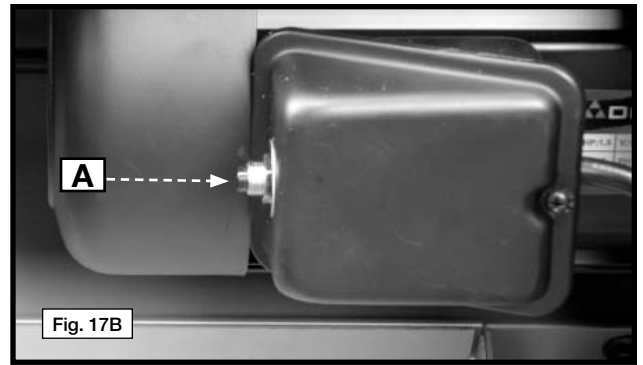

Fig. 17B
The drum motor is equipped with a reset overload relay. If the motor fails to start because of overloading or because of low voltage, turn both switches to "OFF". Let the motor cool for 3 to 5 minutes, then push the reset button (A) Fig. 17B. Start the machine.